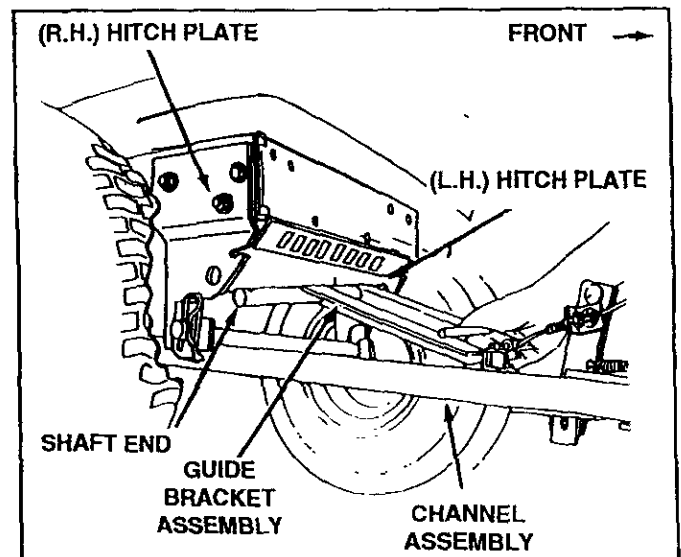
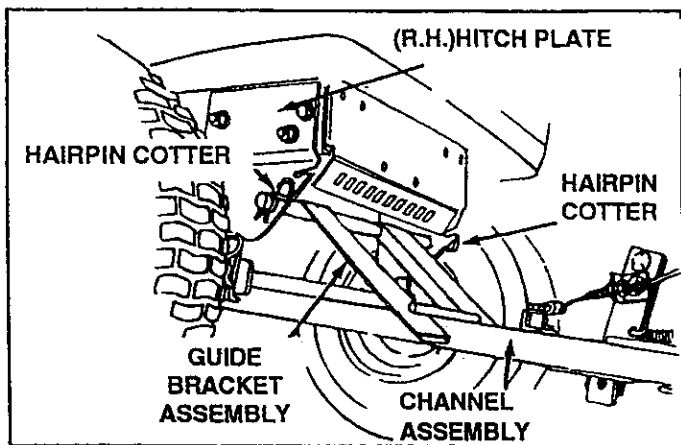

FIGURE 26
FIGURE 27
30. Assemble guide bracket assembly shaft end into the left hand hitch plate. See figure 26. Slide guide assembly back to the right and into the hole in the right hand hitch plate, and secure with a hairpin cotter on each end. See figure 27. Lower front end of guide bracket assembly to straddle channel assembly. See figure 27.